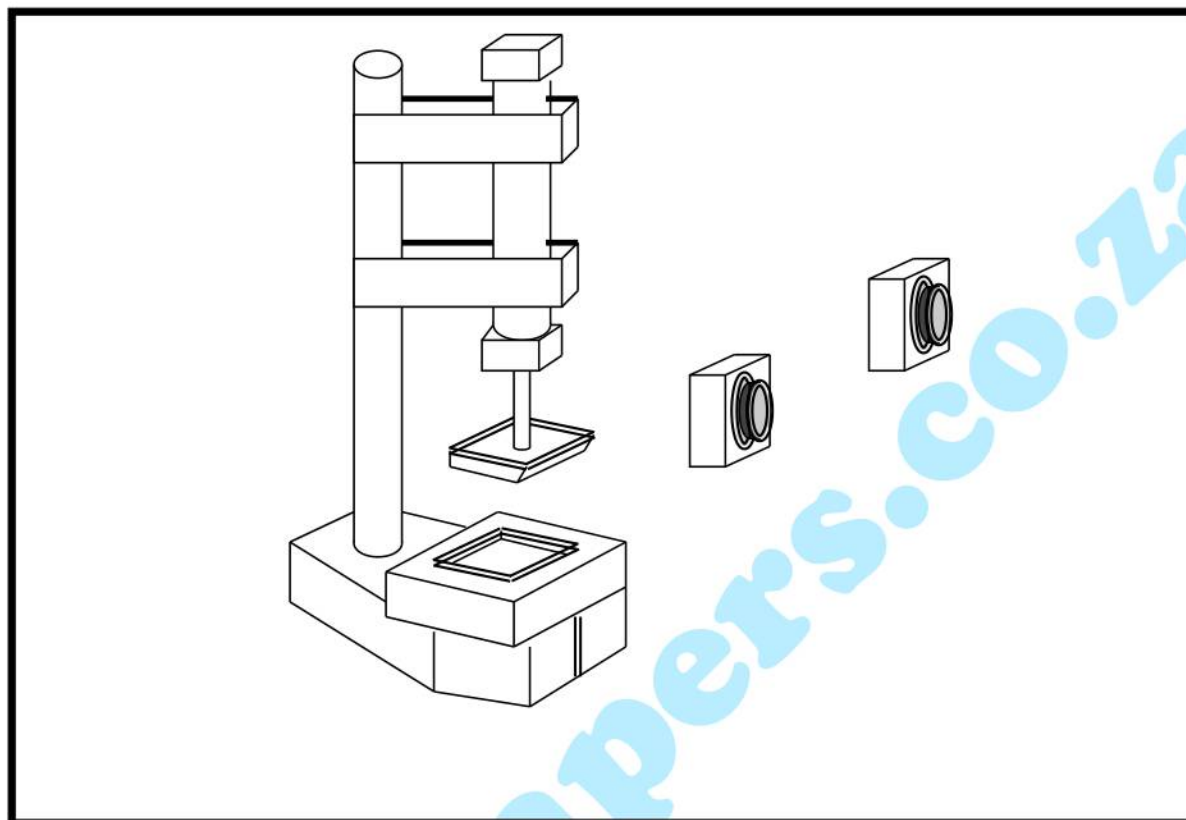

FIGURE 3
Study the pictorial drawing in FIGURE 3 of a two-handed-controlled electro-pneumatic embossing machine.
- 4.1 List FIVE related electro-pneumatic components that you would use to construct the embossing machine shown in FIGURE 3, using indirect control. (5)
- 4.2 Draw the 24-V two-handed-controlled DC circuit for the embossing machine shown in FIGURE 3 that will return automatically after the push buttons are released using indirect control. (5)
- 4.3 Draw the electro-pneumatic working circuit for the embossing machine shown in FIGURE 3 that will return automatically after the push buttons are released using indirect control. (4)
- 4.4 Briefly explain the operation of the embossing machine shown in FIGURE 3. (3)
5.4 Explain how the 'output-input-through-the-circuit' method is applied for each of the scenarios given in the following questions (5.4.1–5.4.4) when troubleshooting using 'live' or 'dead' circuit testing on the electro-pneumatic embossing machine shown in FIGURE 3.